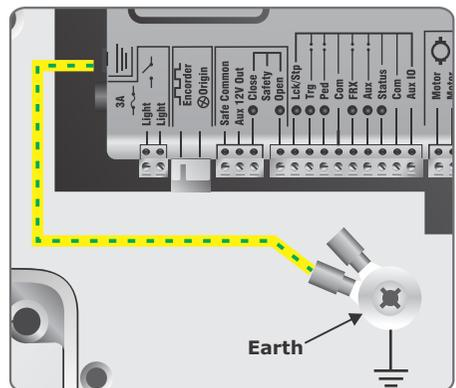

FIGURE 38
9. Fasten the 220V earth cable onto the earth stud in the wall box enclosure as shown in Figure 38.